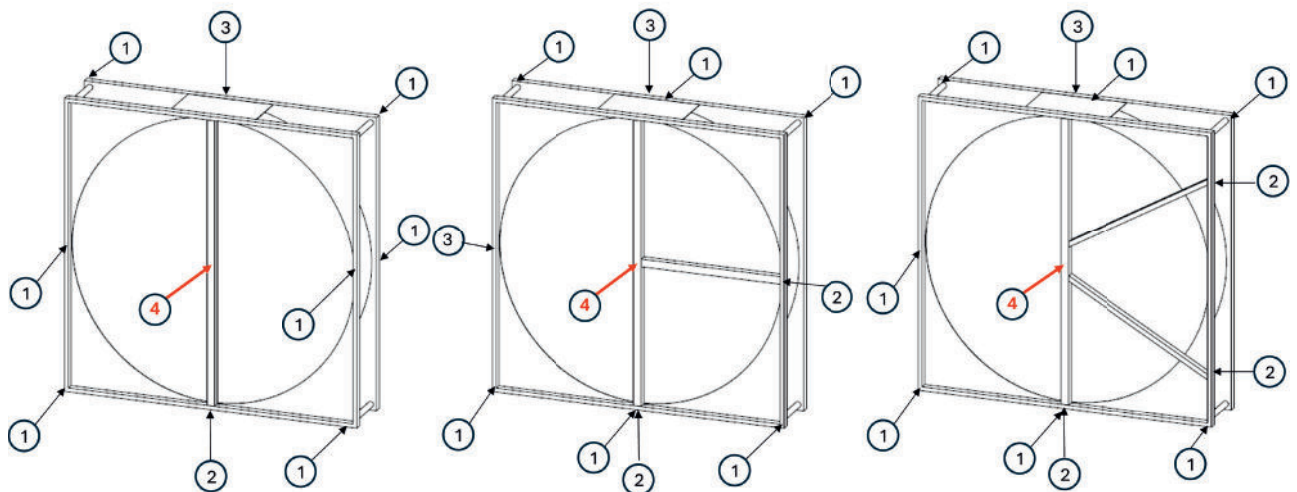

Figure 23: Vertical side by side airflow
- Due to the orientation of the casing, the positions of the forces also need to be rotated according to Figure 23 side-by-side installation.